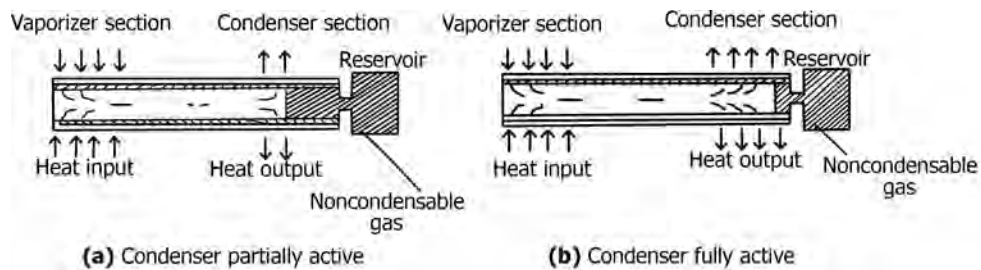

FIGURE 13.22 Variable conductance heat pipe.
- *Variable Conductance Heat Pipe (Figure 13.22)*: Permits variable heat fluxes into the vaporizer while the vaporizer temperature remains constant by pushing a noncondensable gas into the condenser when heat fluxes are low and moving the gases out of the condenser when heat fluxes are high, thereby increas-